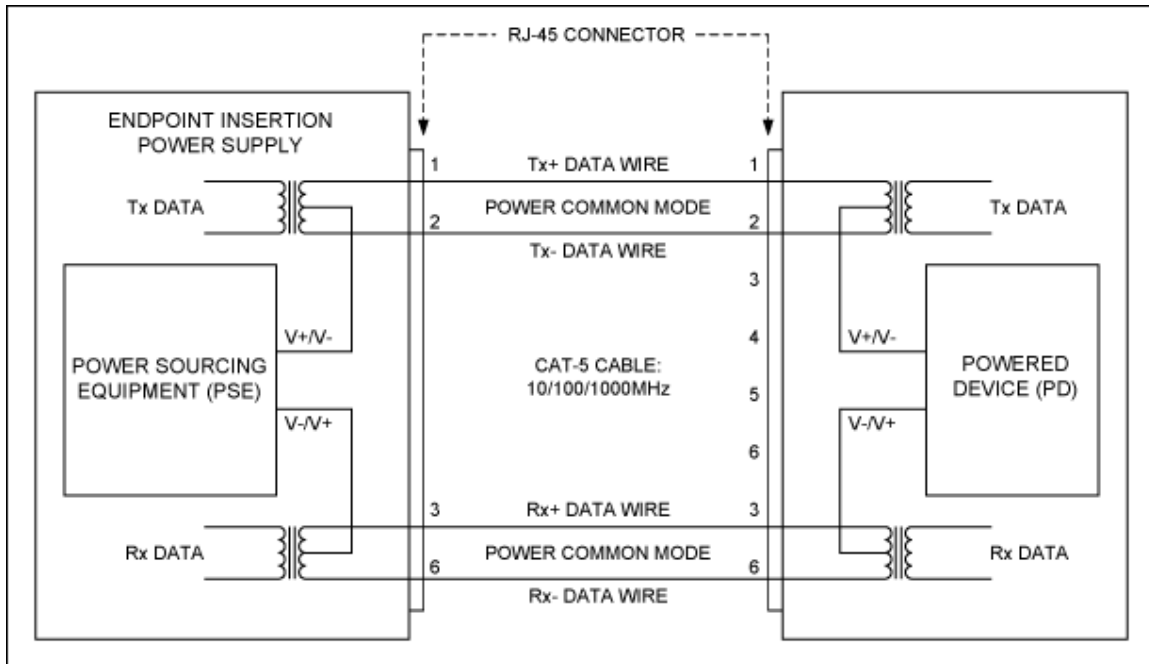

Figure 2. PoE endpoint insertion schematic for 10/100/1000MHz Ethernet.
In a PoE endpoint insertion solution, the PSE uses pairs 1-2 and 3-6 for power distribution (**Figure 2**). The power in an endpoint configuration is supplied as a common-mode bias (DC) on the cable pairs, while Ethernet data is transformer coupled and fully differential (AC). The polarity of the PSE outputs is not defined for endpoint applications.